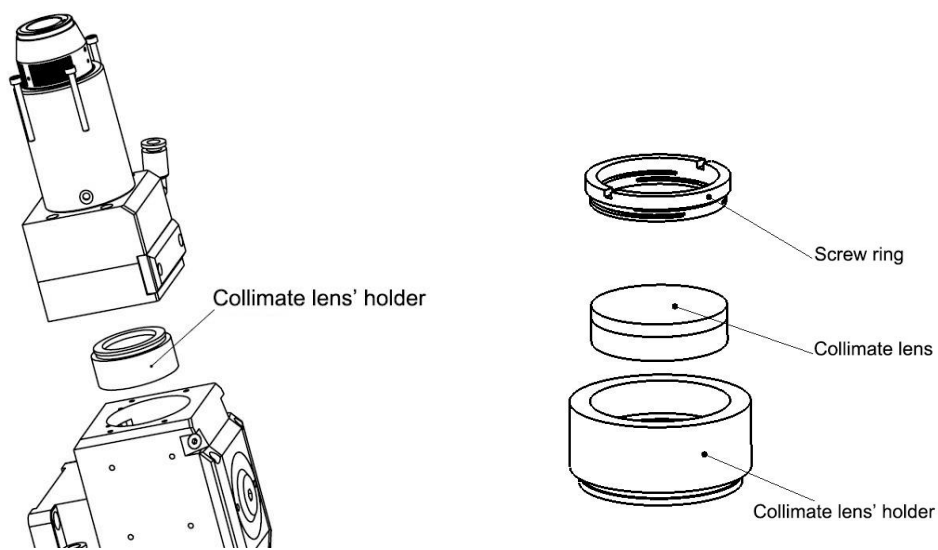

Figure 13. Collimate lens with lens' holder.
(1) Disassembly the cutting head and clean up all the dust on the surface of the head in a clean place;
(2) Loosen all the screws of the collimate lens unit showed in figure 13 by hexagonal screw driver in 3mm, and kindly suggest you use masking tape to cover the part connecting with collimate lens for preventing dust coming inside;
(3) Take out of the collimate lens with lens' holder by the optics resemble tools and then take out of the screw ring and collimate lens by the same tool;
(4) Clean or change the collimate lens;